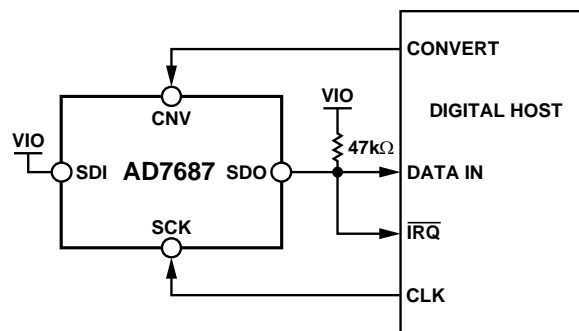
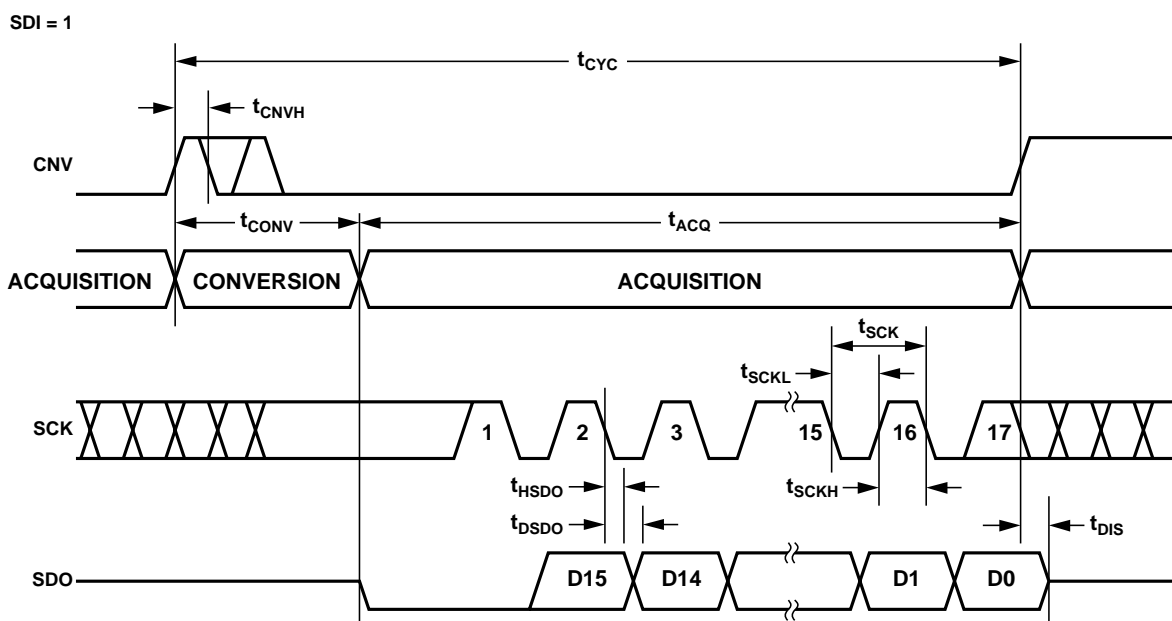
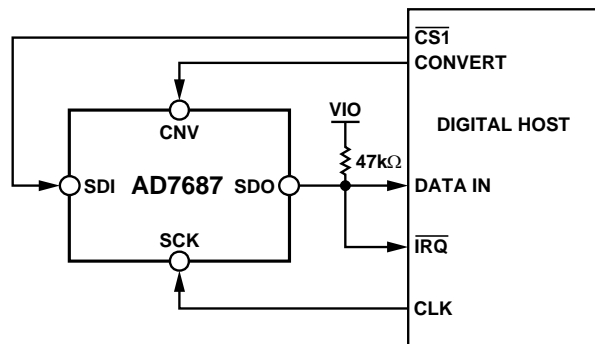
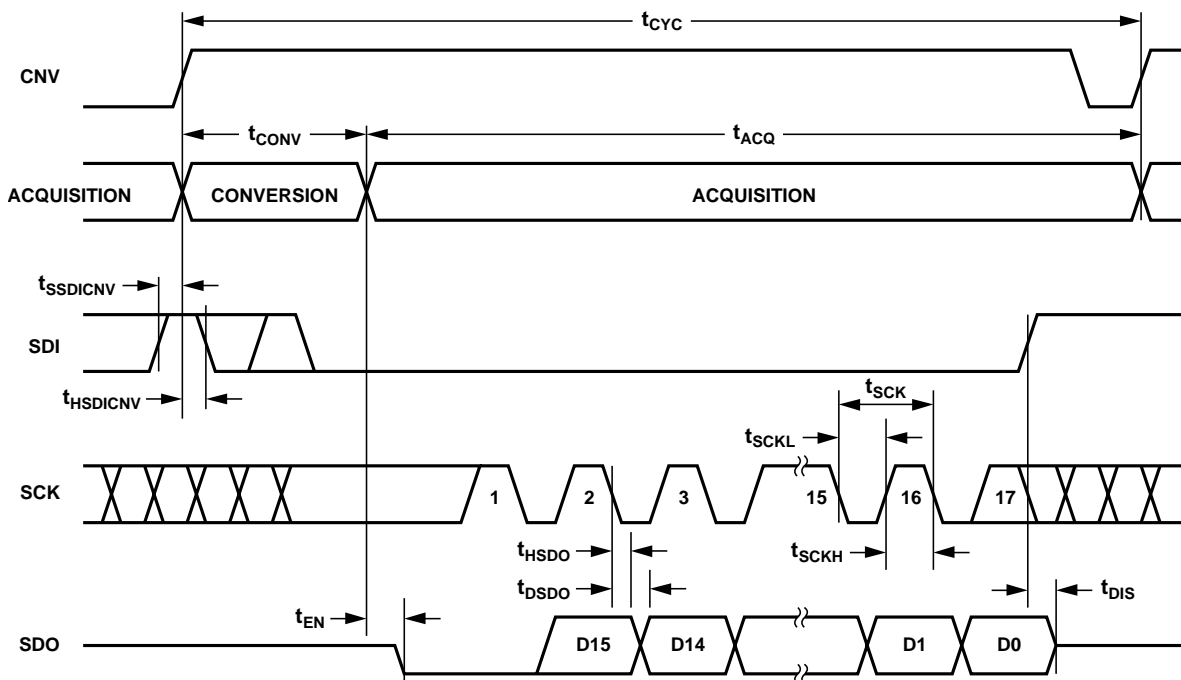

Figure 37. $\overline{\text{CS}}$ Mode 3-Wire with BUSY Indicator Connection Diagram (SDI High)
Figure 38. $\overline{\text{CS}}$ Mode 3-Wire with BUSY Indicator Serial Interface Timing (SDI High)
Figure 41. \overline{CS} Mode 4-Wire with BUSY Indicator Connection Diagram
Figure 42. \overline{CS} Mode 4-Wire with BUSY Indicator Serial Interface Timing
- In the \overline{CS} mode, if CNV or SDI is low when the ADC conversion ends (Figure 38 and Figure 42).
The connection diagram is shown in Figure 37 and the corresponding timing is given in Figure 38.
The connection diagram is shown in Figure 41 and the corresponding timing is given in Figure 42.